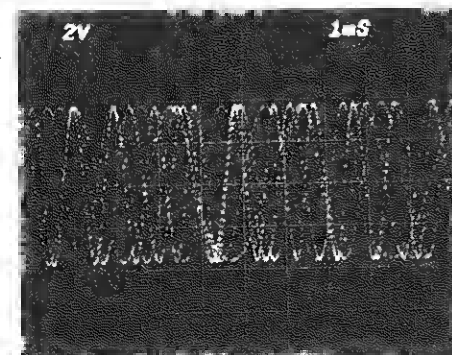

Fig. 4-10 Waveform of 6 Voice Time-Sharing
- 2) Keep holding an AX80 (or another MIDI accommodating synthesizer) keyboard key down, and observe the waveform of a time-shared audio signal emerging at IC67 pin 19. (See Fig. 4-10, 11)